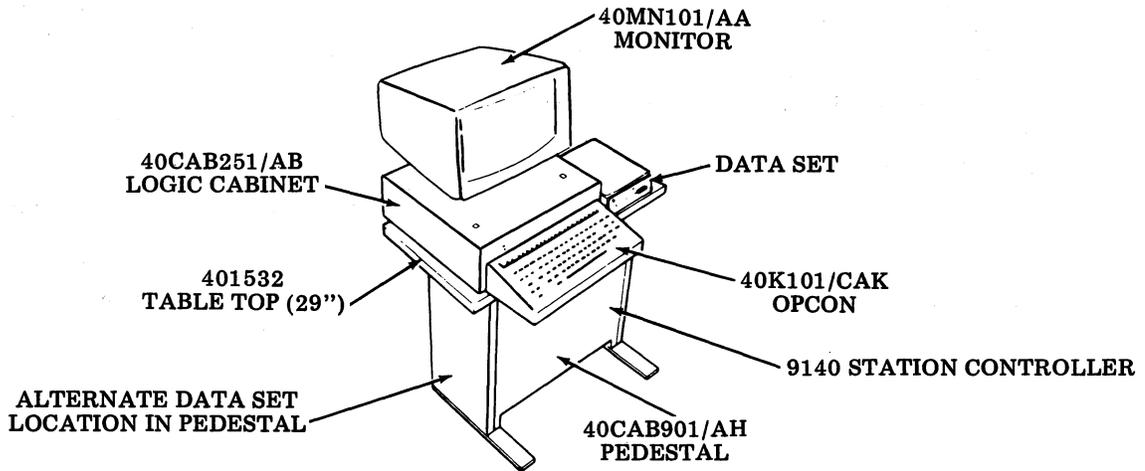

Fig. 1—KD Station
2.04 The station consists of a keyboard (opcon), a monitor and a logic cabinet all mounted on a pedestal containing the 9140 Station Controller (Fig. 1). The data set may be placed on the table top or in the pedestal. See Page 97 for a list of data sets used in 40/3-type stations.